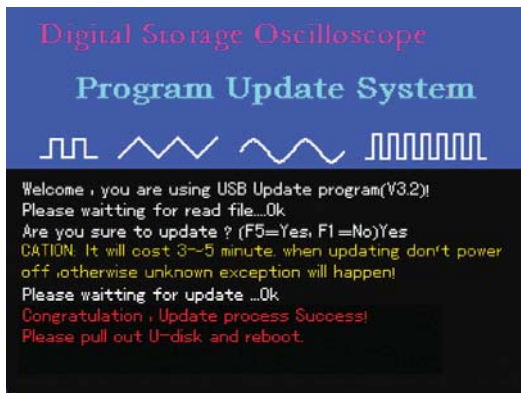

Figure 5-5
6. When upgrade progress reaches 100%, display will change to OK to indicate success of the current program upgrade task. A successful upgrade prompt as shown in Figure 5-5 will appear: “Congratulation, Update process Success! Please pull out U-disk and reboot.”